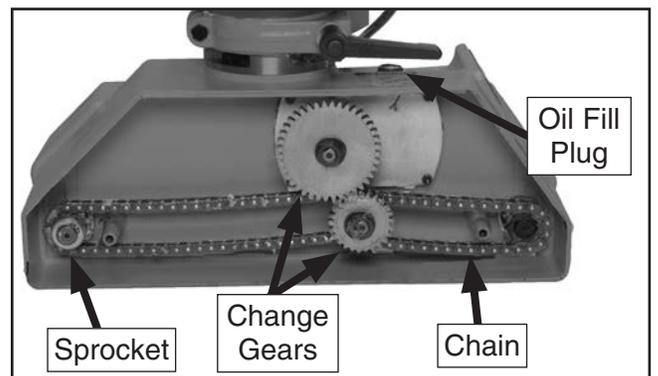

Figure 16. Sprockets, chain, and gears.
3. Make sure that the power feeder gearbox oil level is full, the oil level should be 1" below the oil fill port. Refer to **Figure 16** on **Page 22** for oil fill port location.
- As required to prevent rust, binding, and dry spots, brush the sprockets, chain, and change gears (see **Figure 16**) with a light film of an automotive grade GL-2 grease.